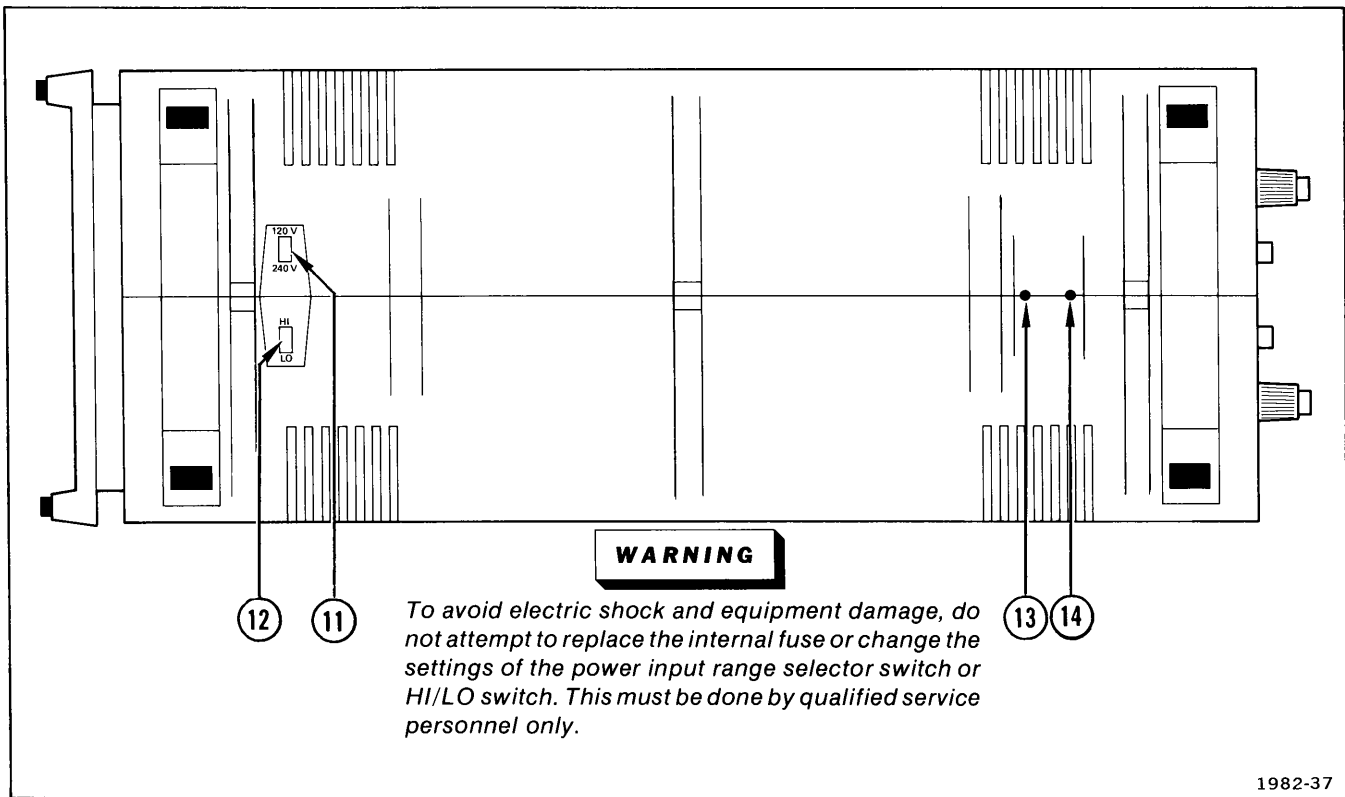

Fig. 2-4. Bottom of cabinet.
**Bottom of Cabinet (Fig. 2-4)**
① 120 V/240 V—Screwdriver actuated switch selects either 120 V or 240 V nominal power input voltage.
② HI/LO—Screwdriver actuated switch selects either high or low nominal line-voltage regulating range: LO selects 100 V or 220 V and HI selects 120 V or 240 V.
③ CH 1 DC BAL—Screwdriver adjustment. When properly adjusted, prevents trace shift when switching between adjacent positions of the CH 1 VOLTS/DIV switch.
④ CH 2 DC BAL—Screwdriver adjustment. When properly adjusted, prevents trace shift when switching between adjacent positions of the CH 2 VOLTS/DIV switch.